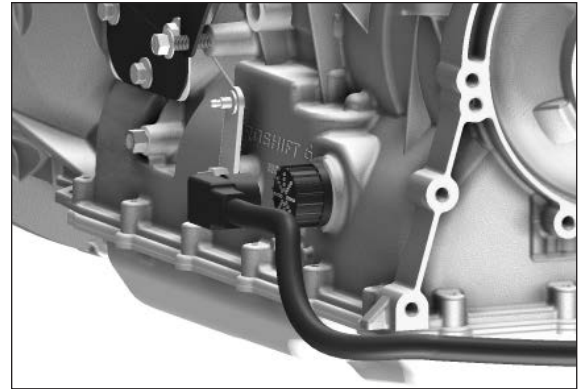

Figure 21
**NOTE:** The removal of the transmission electrical connection plug will aid in the installation of the PTO (**Fig. 21**) (**249V**).